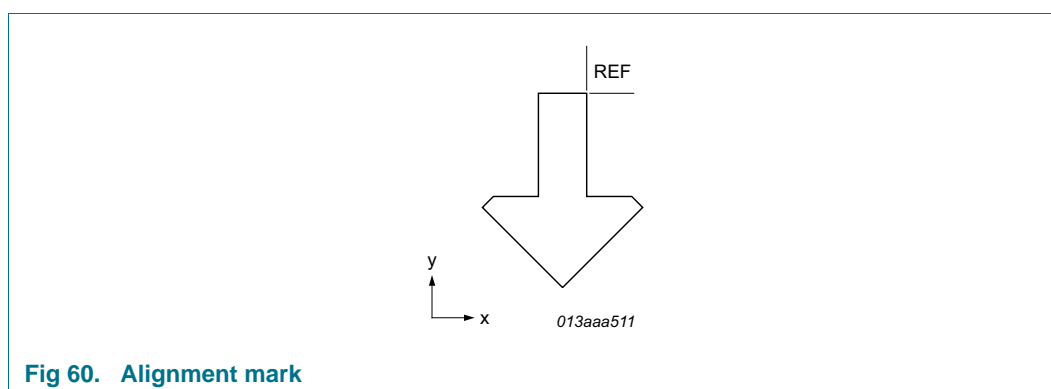

Fig 60. Alignment mark
- [1] The x/y coordinates of the alignment mark location represent the position of the REF point (see Figure 60) with respect to the center (x/y = 0) of the chip; see Figure 59.
- [2] The x/y values of the dimensions represent the extensions of the alignment mark in direction of the coordinate axis (see Figure 60).